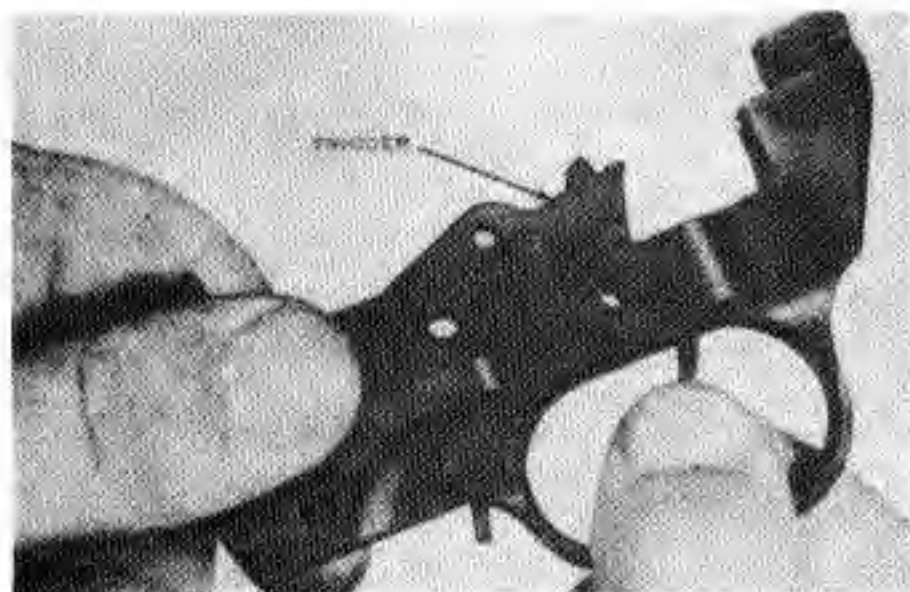

**Figure 21. Removing the trigger pin.**
*c.* Hold the trigger housing group in the left hand as shown in Figure 21, with the thumb pressing down on the sear. Using the small end of the operating slide spring guide, drift out the trigger pin from right to left. Turn the trigger housing group upside down and allow the sear and sear spring to fall out.